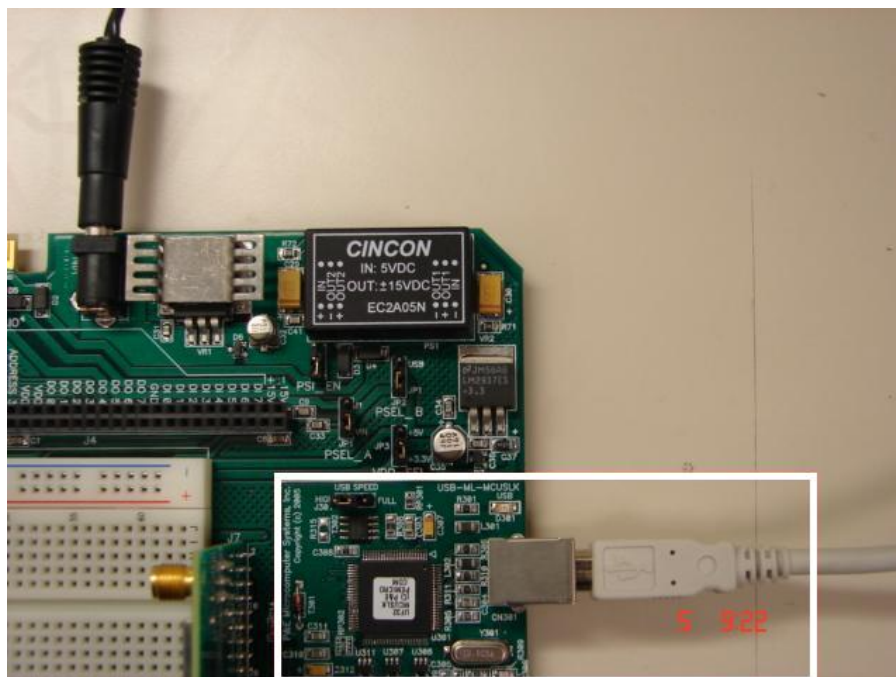

Figure 17 USB Programming Connection for APS12D
- ◆ In order to program the device you need to plug in the USB cable into the USB connector on MCU Project Board as pictured in Figure 17.